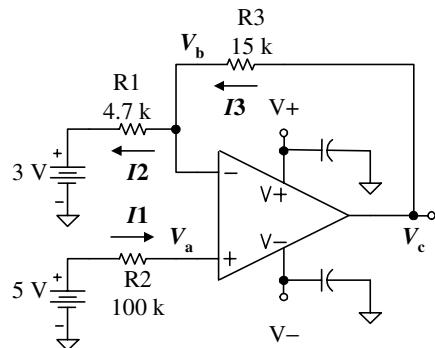

Figure 1-38 Schematic for Problem 1-13.
- 1-13** Calculate all of the currents and voltages for the circuit in Figure 1-38.